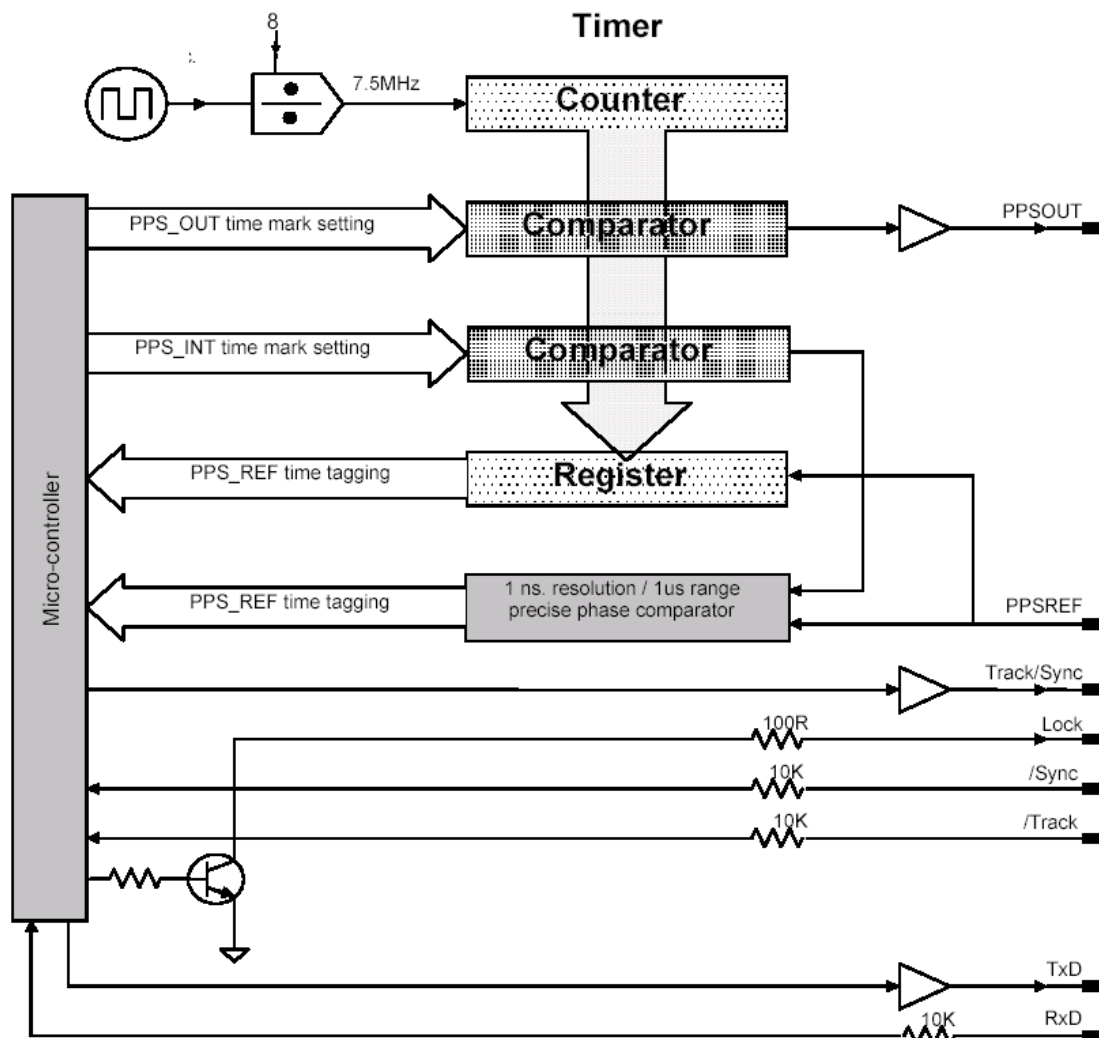

Figure 3. PPS and Control Block Diagram
This correction is calculated from an internal phase-time error signal measured within 1 ns resolution issued from an internal PPS signal (PPSINT) aligned to the PPSREF signal (see figure 3).
The PPSINT is directly compared with PPSREF signal using precise phase comparator (PC) with 1 ns resolution and +-500 ns dynamic range. (see figure 3 below).